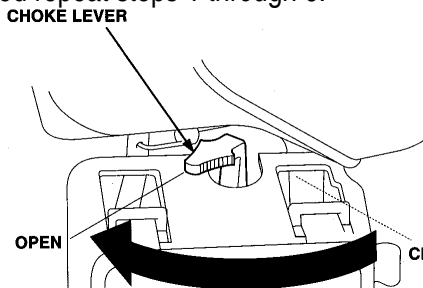

Figure 14. Choke Lever (Open)
- If the engine has started and the choke lever was moved to the **CLOSED** position to start the engine, gradually move the choke lever to the **OPEN** position (Figure 14) as the engine warms up. If the engine has not started repeat steps 1 through 6.